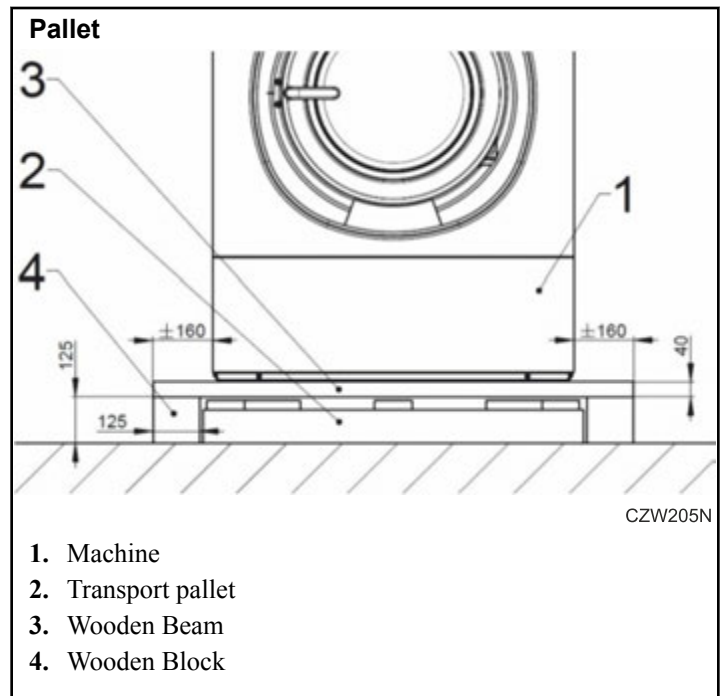

Figure 10
Move the machine from the storage to the install area with a low-level pallet jack. The machine (1) is delivered bolted onto the transport pallet (2) and packed in shrink-wrap foil or box. Below handling should be executed by 2 persons. Needed materials: Refer to *Figure 10*.
- Length wooden beam = machine width (refer to *General Specifications*) + 2 pcs beams (3) length 6.3 in [160 mm]
- 4 pcs Wooden blocks (4) - height: 4.92 in [125 mm] ; width: minimal 4.92 in [125 mm] ; Length: minimal 5.91 in [150 mm]
18. After levelling is completed, tighten the counter nut (2) securely against machine base. Refer to *Figure 10*.